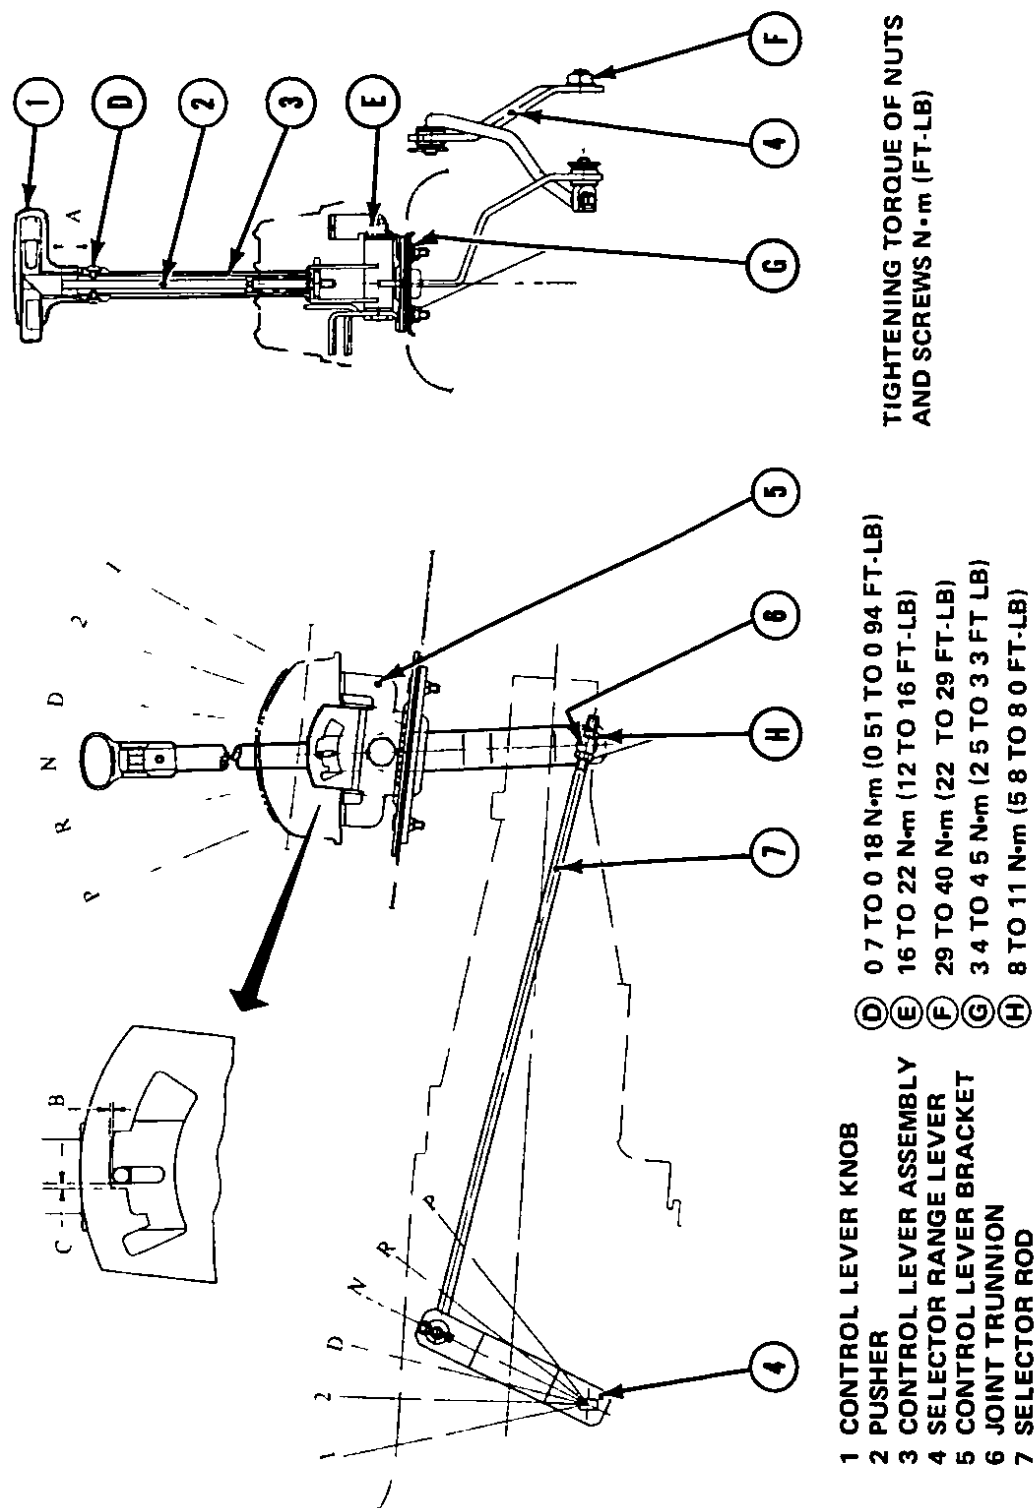

Fig 146 Control linkage system - Models 610 & 710
- 1 Prior to installing the control knob, set the dimension "A" to 11 to 12 mm (0 433 to 0 472 in), Fig 146
- 2 Install the control knob on lever. At the same time, check the dimension "B" and adjust it to 0 1 to 1 1 mm (0 004 to 0 433 in) by turning pusher, Fig 146
- 3 Loosen the adjustment nuts. Set control lever and selector lever in neutral. Set the clearance "C" to 1 mm (0 039 in) by turning adjusting nuts at trunnion which connects selector rod, Fig 146